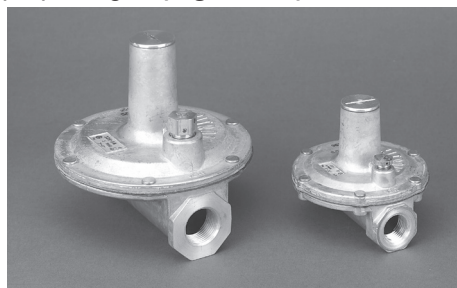

Figure 2-3
- B. **Pressure Regulators:** Pounds to inches - for use in elevated pressure system installations (over 14-inch water column- one-half PSI) to reduce pressure to standard low pressure for appliances. Regulators are available for use with natural and propane gas (Figure 2-3).